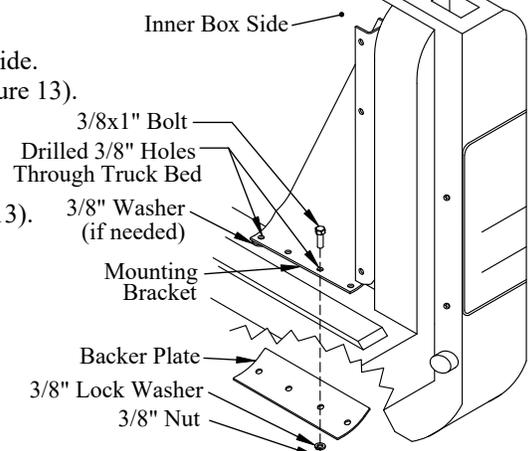

Figure 13: Mounting bracket and backer plate.
8. **Drill** two (2) 3/8" holes into the truck bed floor using two holes in the bracket as a guide. Choose two of the four holes provided with no obstructions on the underside (Figure 13).
- (2) 3/8"x1" hex head bolts on the top-side (Figure 13).
- (1) backer plate, (2) lock washers, and (2) hex nuts on the under-side (Figure 13).